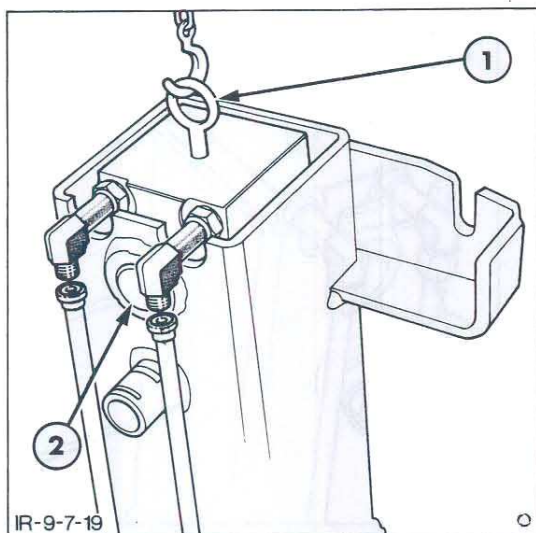

Figure 22
6. Fit a suitable eye bolt in the threaded bore on the top of the cylinder, ensuring that the threaded portion does not re-lock in the waisted section of the locating pin and support the weight of the cylinder with suitable lifting equipment, Figure 22.